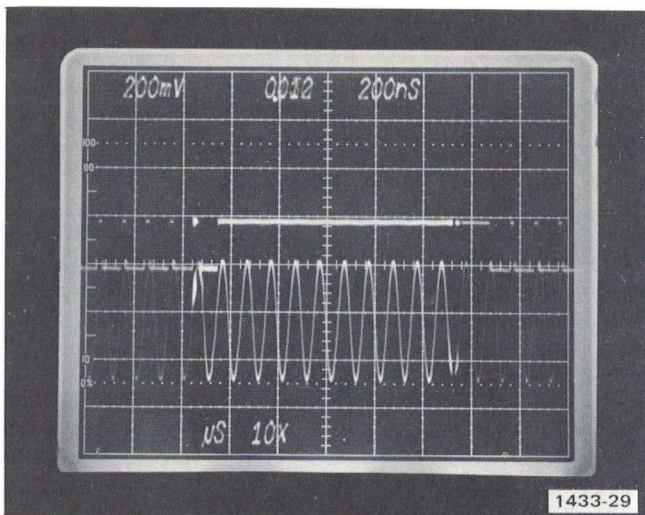

Fig. 5-10. Typical pseudo gate display when B Arm is gated.
j. Check—for a pseudo gate pulse at every positive-going slope of the sine wave, except during the intensified portion. See Fig. 5-10 for a typical display.